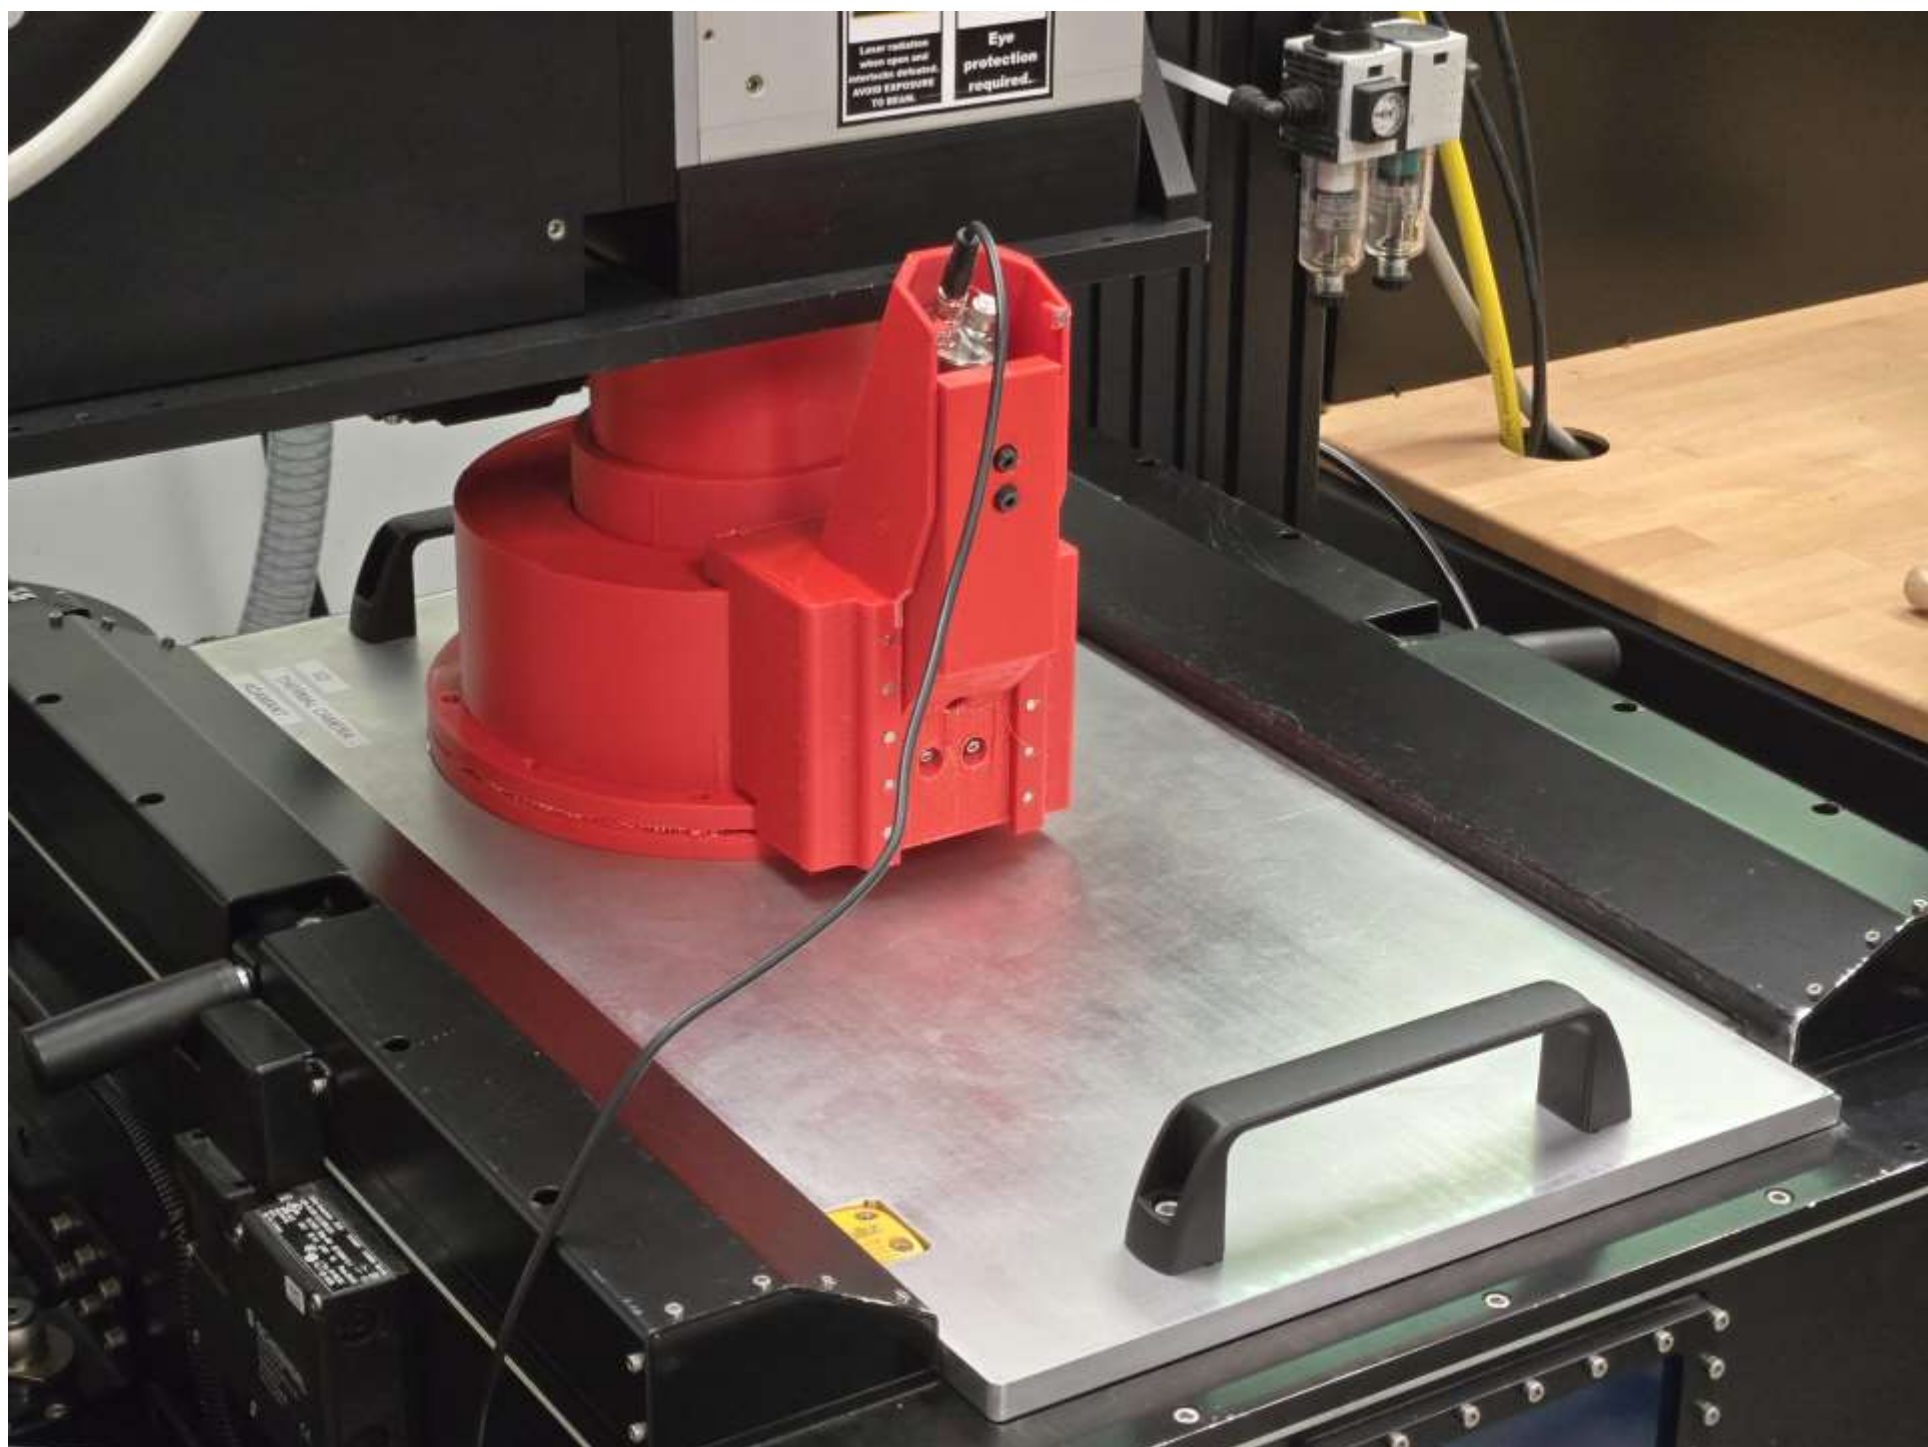
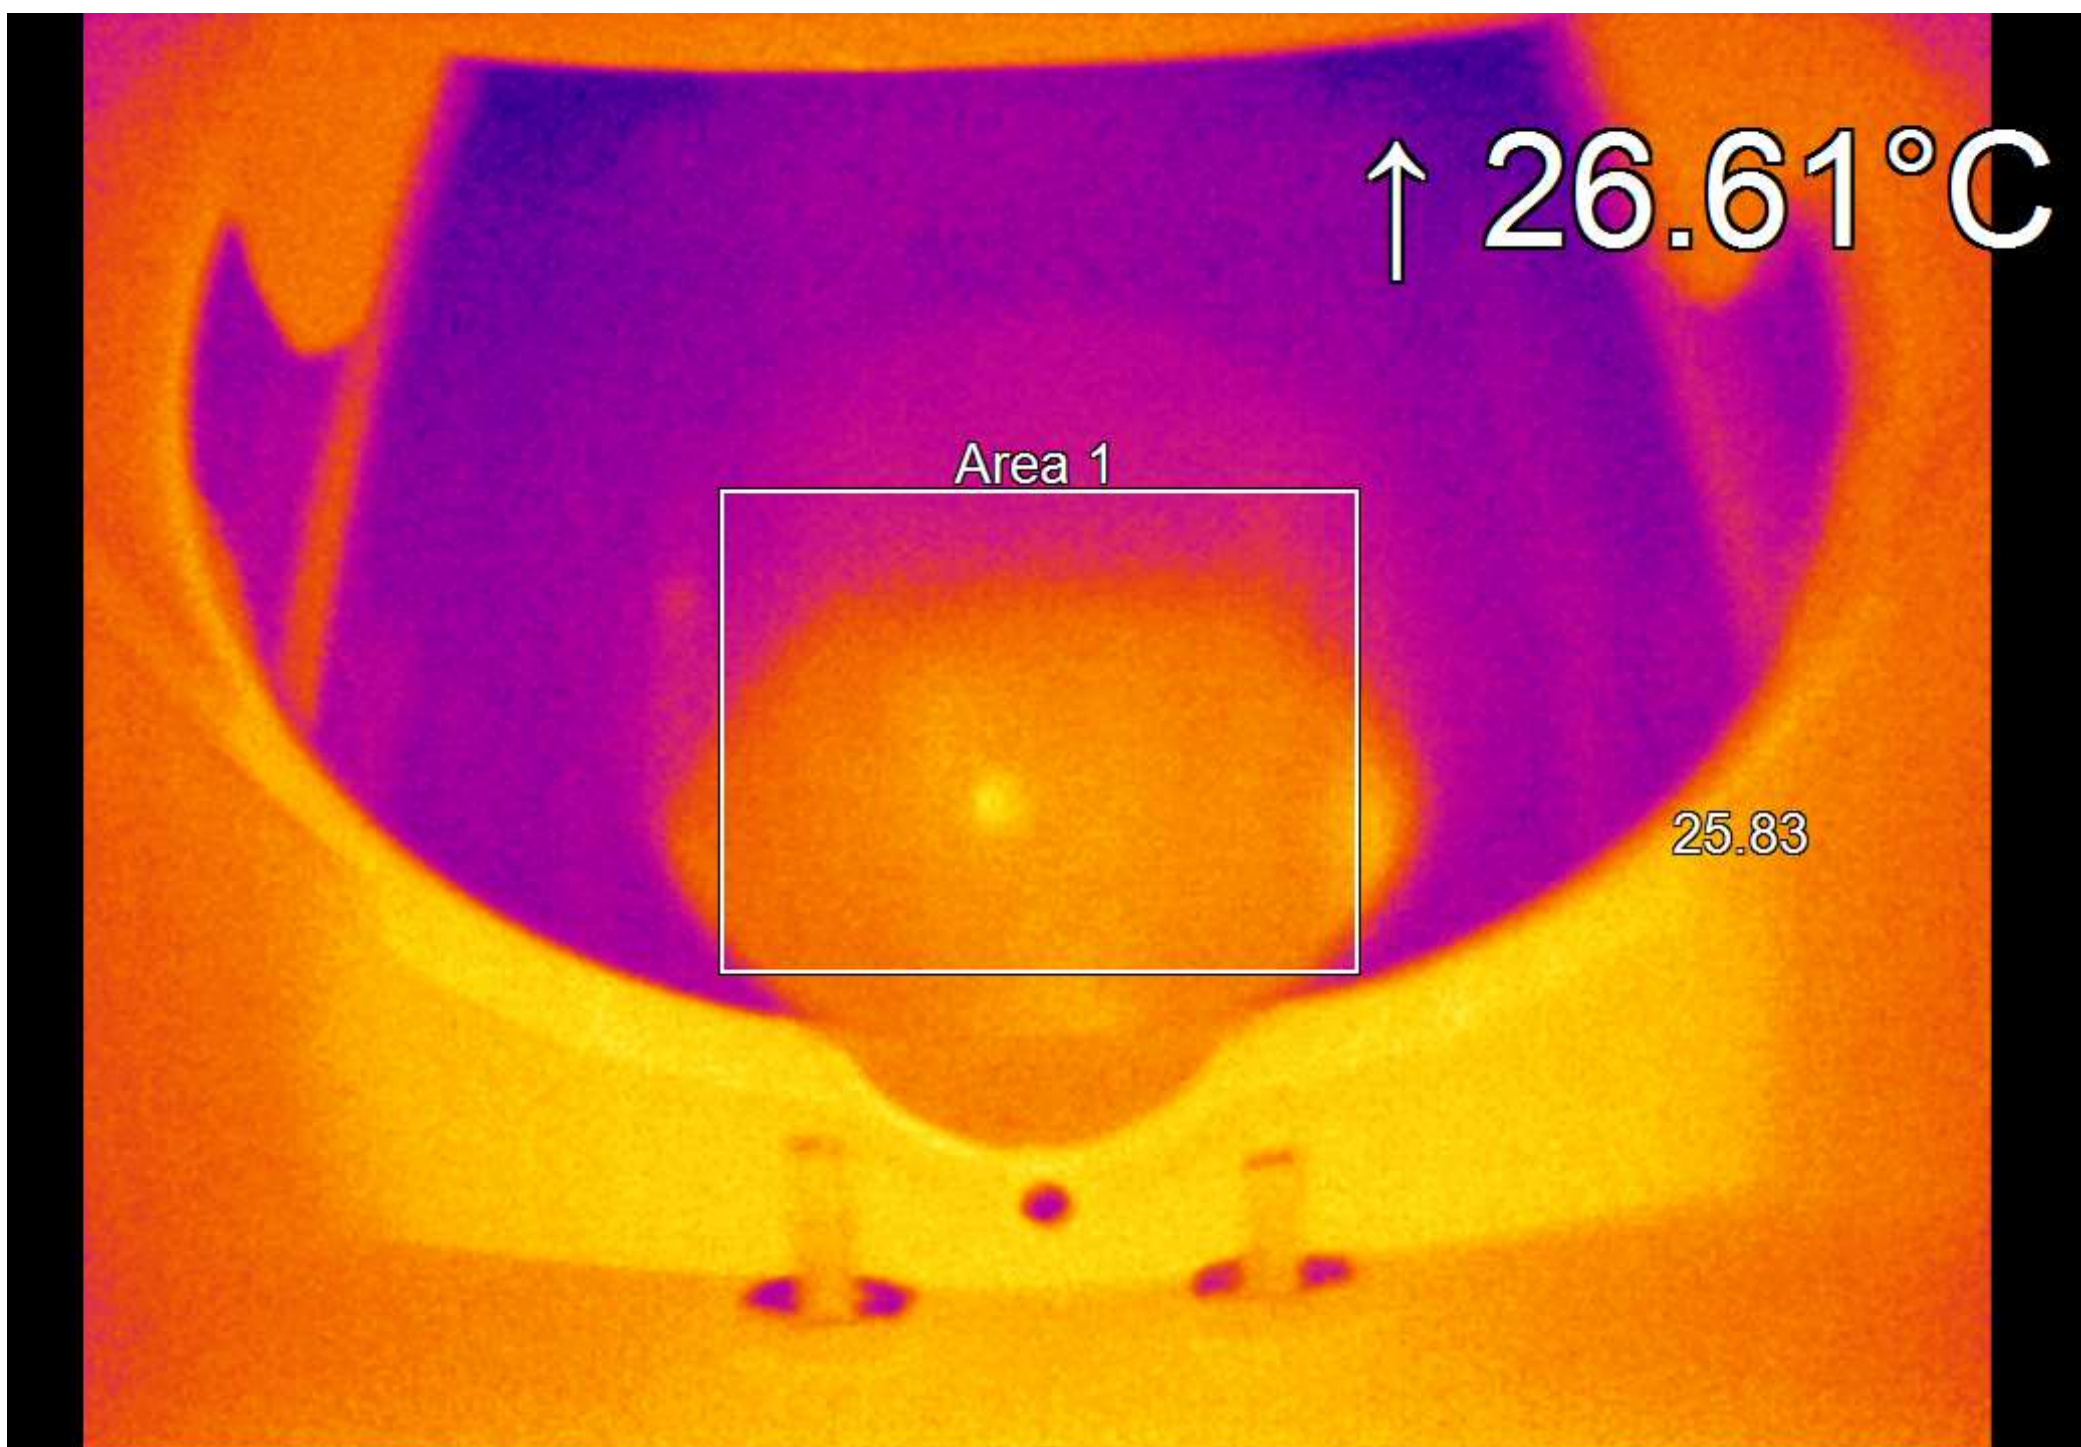

Fig 6. Hardware implementation for Aconity MIDI printer featuring the Optris Xi 400 thermal camera
Fig 7. Test run of hardware implementation. White dot in the middle is the weld
- Hardware implementation has been designed and manufactured (Fig. 6) and fits in the Aconity MIDI printer. Additionally, we have done a test print to collect some data. (Fig.7). There is a problem, the camera is either too far away or out of focus leading to poor image quality.